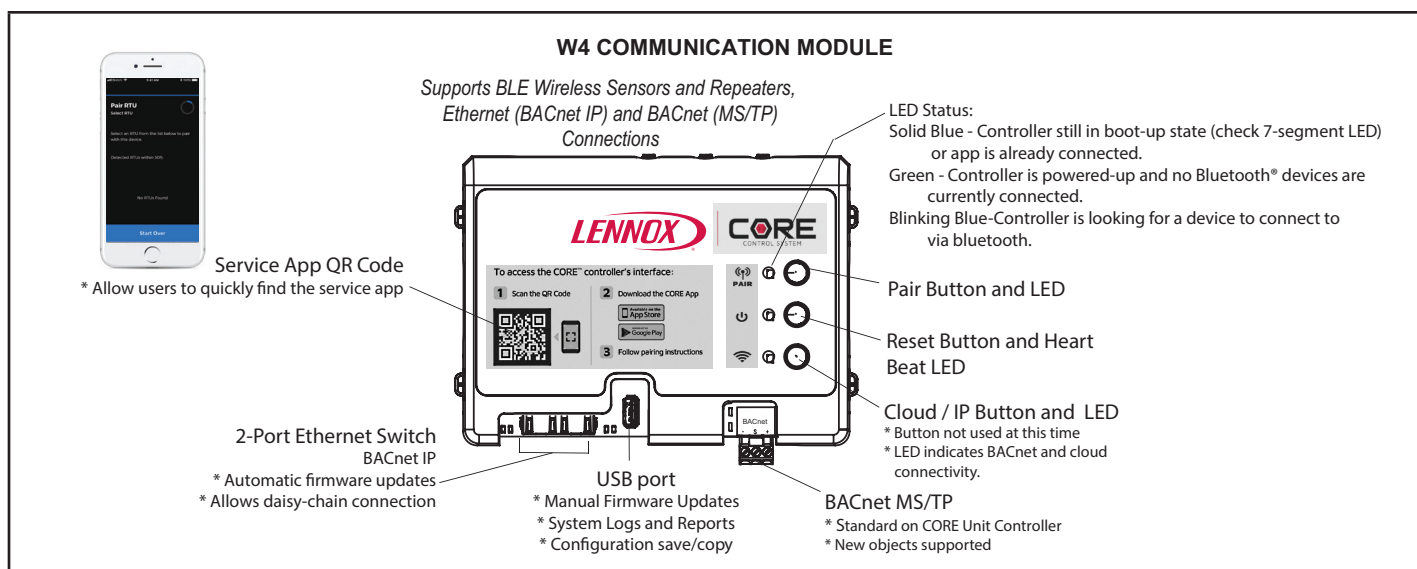

FIGURE 20
- 2 - Press and hold the pair button for five seconds. See figure 20.